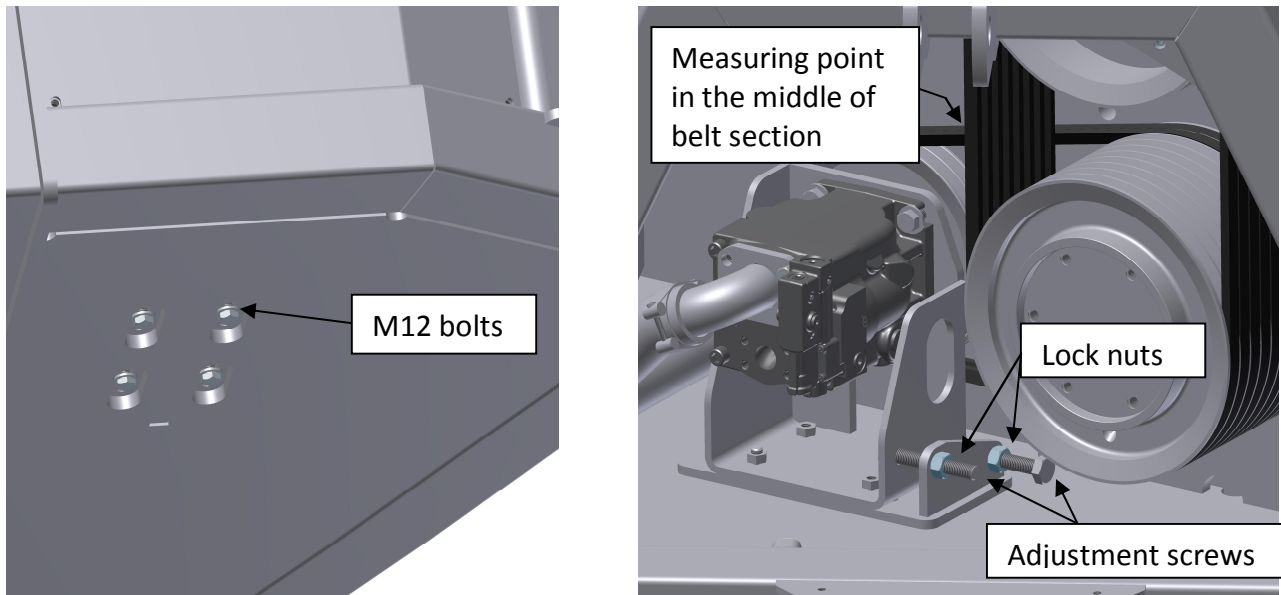

Figure 15 Adjusting the V-belt for the hydraulic pump
Loosen the four M12 bolts under the machine, which attach the pump console, and the lock nuts (see Figure 15), then adjust the tension by turning the adjustment screws. Used belts may yield by
7.26 mm when they are pressed down with 67 N (6.7 kg). For new belts the figure is 77 N (7.7 kg). (See Figure 15) The belt tension can be measured with a suitable gauge, which can be bought as an accessory.